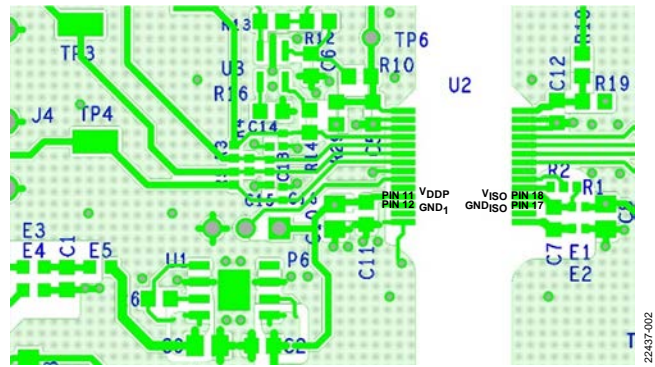

Figure 3. Layout Notes for EVAL-ADUM6421ARNZ/EVAL-ADUM6421AURNZ
- Ensure that VISO (Pin 18) is connected through the E2 ferrite bead before connecting to the VISO load, as shown in Figure 3.
- Ensure that there is a keep out area in the PCB layout around E1 and E2, as shown in Figure 3.